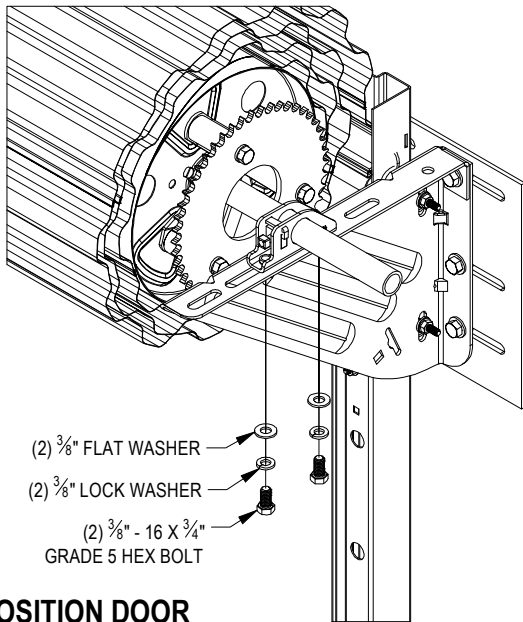

FIGURE 20:
- Attach stamped axle support to door bracket using two (2) each $\frac{3}{8}$ " - 16 x $\frac{3}{4}$ " Grade 5 Hex Bolts, $\frac{3}{8}$ " Lock Washers, and $\frac{3}{8}$ " Flat Washers. **See Figure 20.**